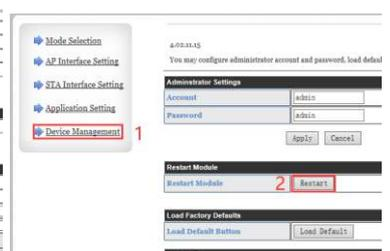

Figure15
6. Restart the device in Device Management to complete the settings as shown in Figure 15: